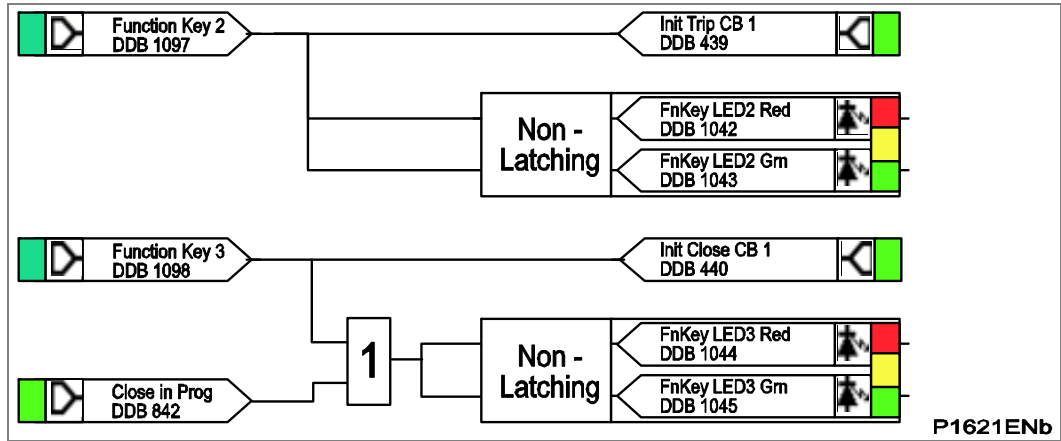

Figure 109 - CB control via function keys default PSL
- Figure 109 - CB2 condition monitoring - broken current